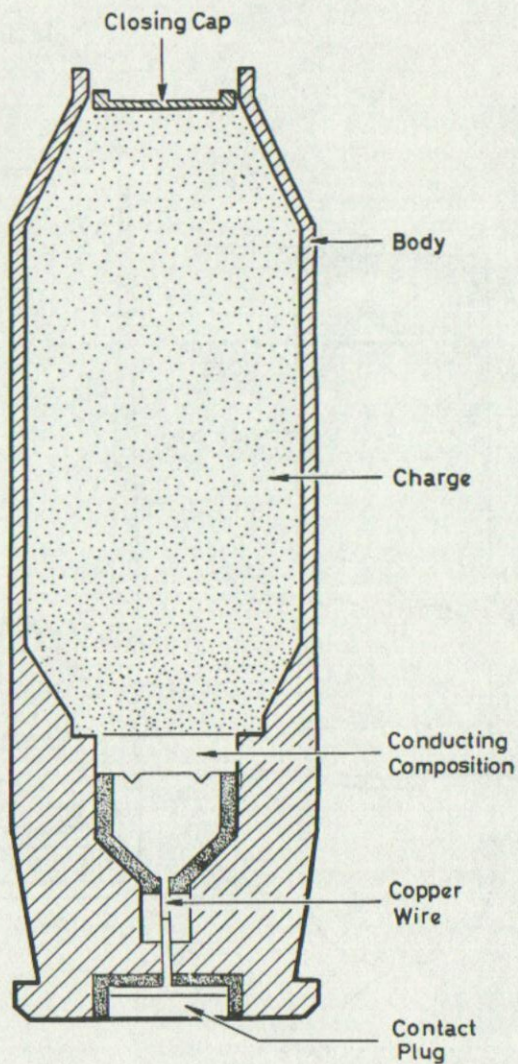

Fig 77 - Tube, vent, electric
5. The vent tube consists of a brass body closed at one end by a closure cap. The main part contains a charge of neonite; in the base is a contact plug from which runs a copper wire to the conducting composition positioned below the charge. (See Fig 77.)